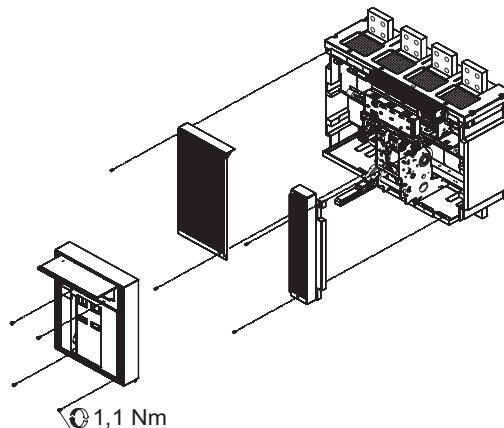

Fig. 23
- Re-assemble the escutcheon plate as shown in figure 23.